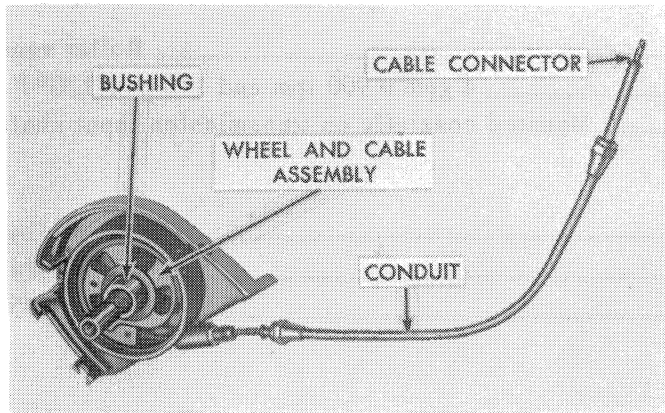

Figure 98
2. Remove the hex nut from the shaft, remove the indicator assembly, and remove the snap ring and retainer plate to expose the wheel and cable assembly, shown in Figure 98. The shaft can now be withdrawn and the wheel and cable can be removed.